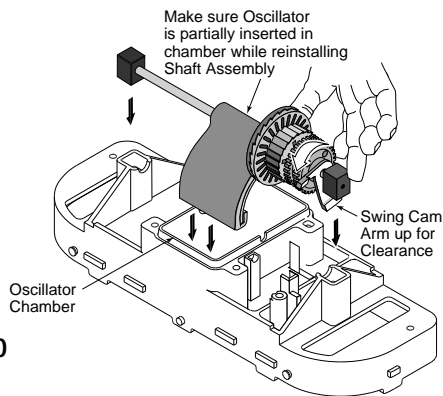

Figure 20
3. Install the long gear shaft and end blocks in the cleaning head with the large arm of the cam down (see Figure 20).